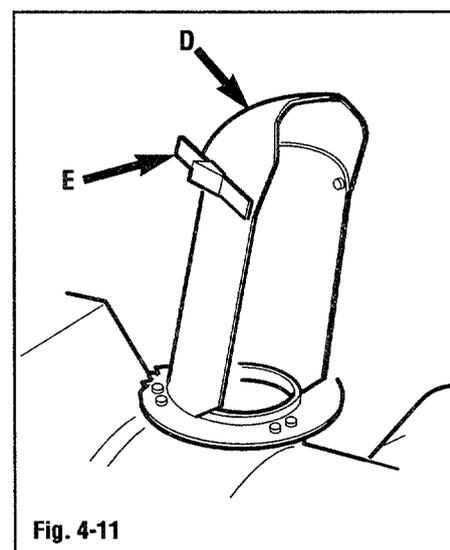

Fig. 4-11
4. Adjust the discharge chute deflector cap angle with lever (E, Fig. 4-11). The discharge chute deflector cap should be adjusted to a low angle, especially in windy conditions.